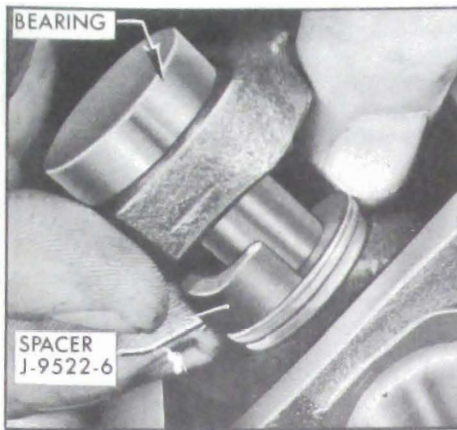

Figure 6-58—Installing Spacer
4. Release the pump and remove the propeller shaft. Install Spacer J-9522-6 over the spider journal at the space provided with the bearing forced partially through the link yoke. See Figure 6-58. Reposition propeller shaft in fixture as before and force the bearing completely out of the yoke with the added assistance of the spacer.